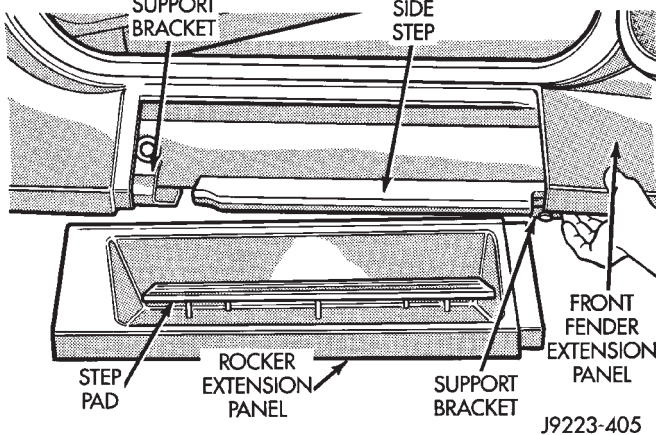

Fig. 54 *Rocker Extension Panel Removal/Installation*
(5) Pull the front fender extension panel outward (Fig. 54) and remove the extension panel (with step pad and spacer) from the side step (Fig. 54).
(4) Position the extension panel (with step pad and spacer) on the side step (Fig. 54).